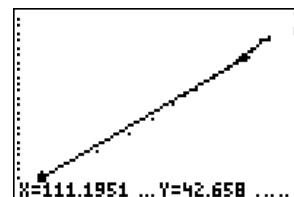

Figure 31
- Press $\left[\text{2ND} \right]$ again to tag this point (Figure 31).